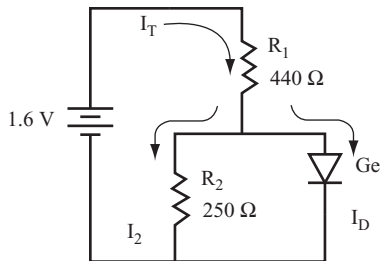

FIGURE 2.22
**21** To find the current in the diode for the circuit shown in Figure 2.22, answer the following questions in order.